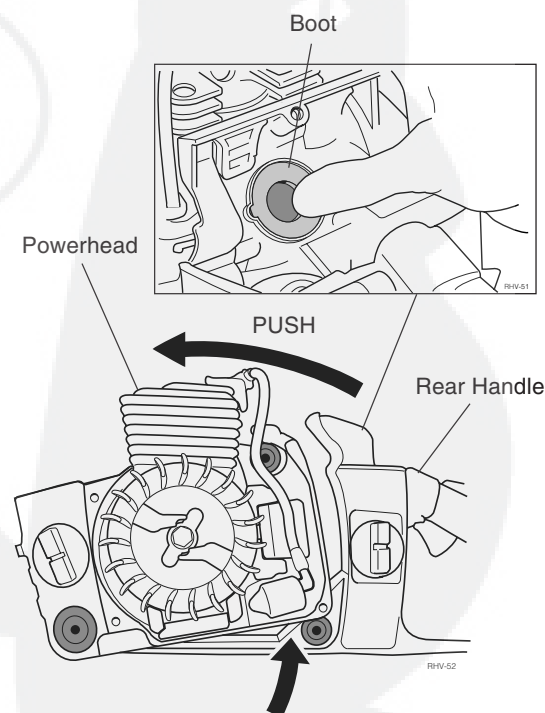

Figure 8.3 Removing the Powerhead
- STEP 2.** While holding the rear handle in one hand, grasp the cylinder with your other hand and then push the cylinder/crankcase assembly from the handle (Figure 8.3).
If the saw has a boot-mounted carburetor, it may be necessary to guide the carburetor boot through the flange on the airbox (Figure 8.3, inset).